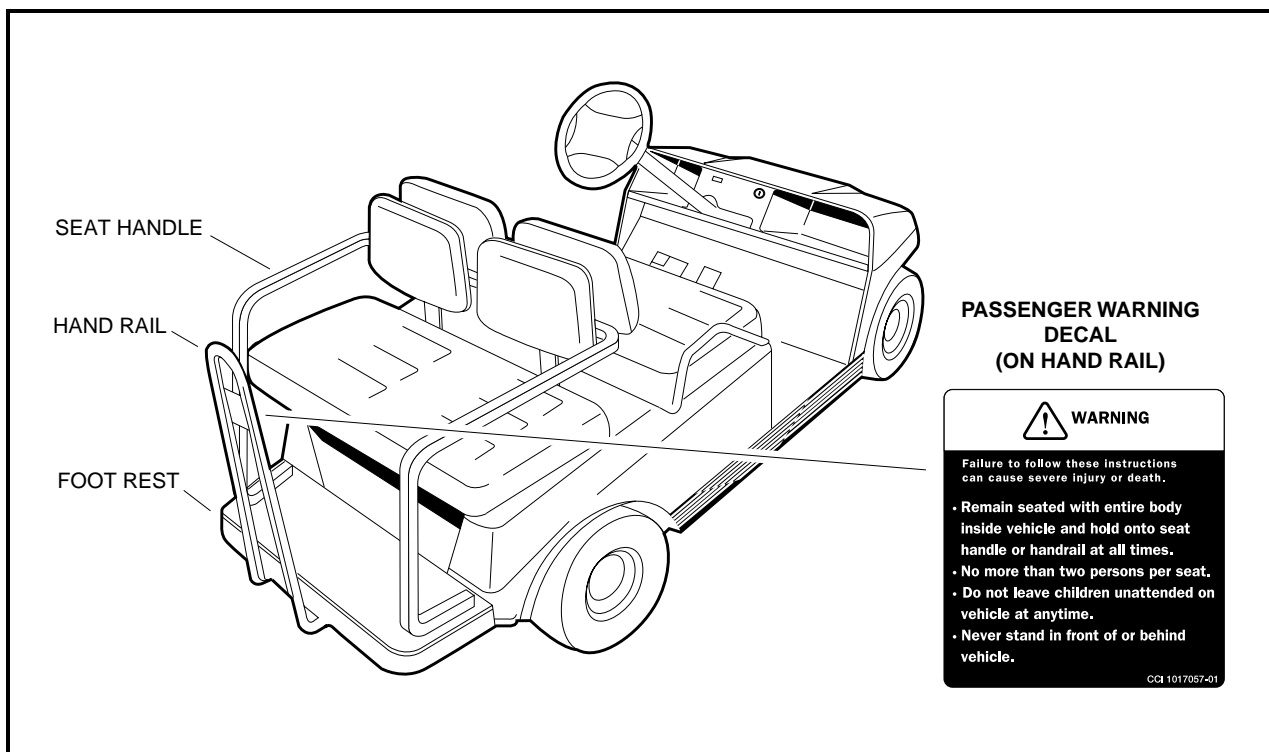

Figure 21 Fairway Villager
- PASSENGERS SHOULD HOLD ON TO SEAT HANDLES OR HAND RAILS AT ALL TIMES (**SEE FIGURE 21, PAGE 22**). DRIVER SHOULD KEEP BOTH HANDS ON THE STEERING WHEEL WHILE VEHICLE IS MOVING.